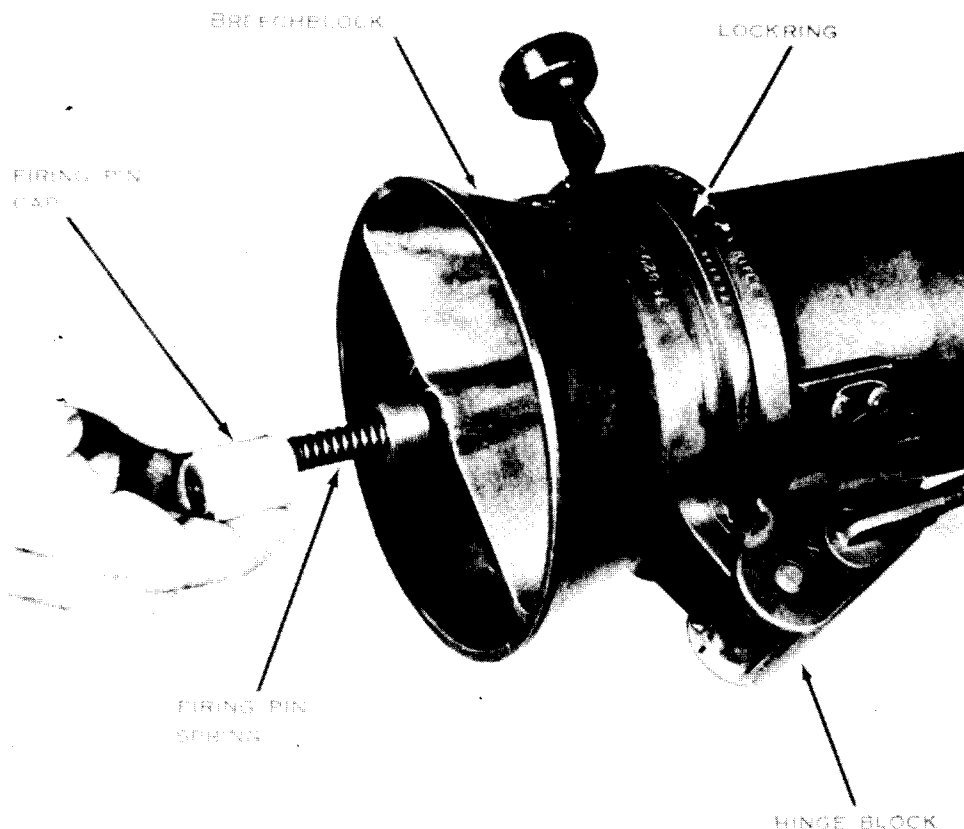

Figure 7. Removing and installing the firing pin cap and firing pin spring.
(1) Disassembly.
- (b) With the breechblock in the closed and locked position unscrew the firing pin cap (1, fig. 6) and remove it and the firing pin spring (2, fig. 6 and fig. 7).